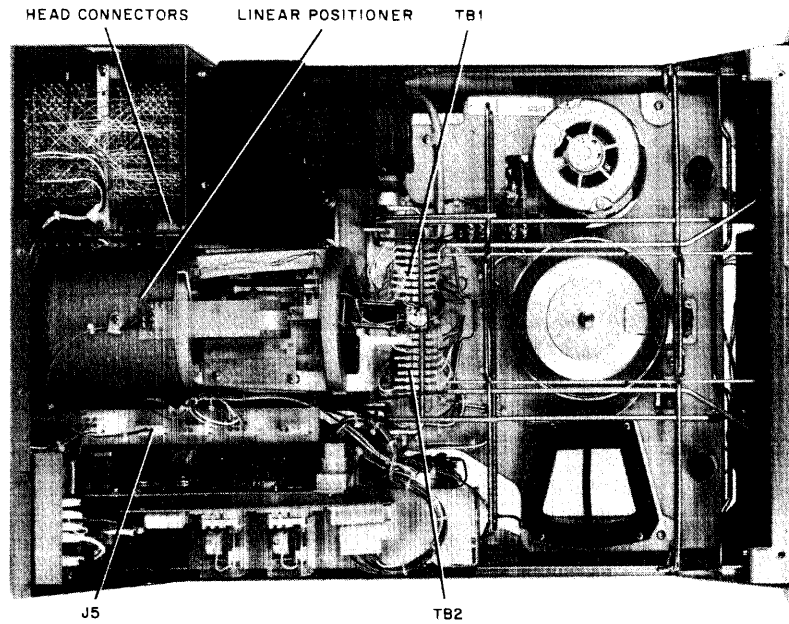

Figure 5-3 Top View with Cover Removed
6. Unplug connector J5 (Figure 5-3) from the power supply chassis.
1. Carefully place the positioner on the three locating pins on top of the baseplate (Figure 5-3). Ensure that the two front pins rest against the front surface of the motor housing and the third diamond shaped pin is in the centerhole of the mounting face.
5. Connect the position transducer wires to TB1 and TB2 (Figure 5-3).